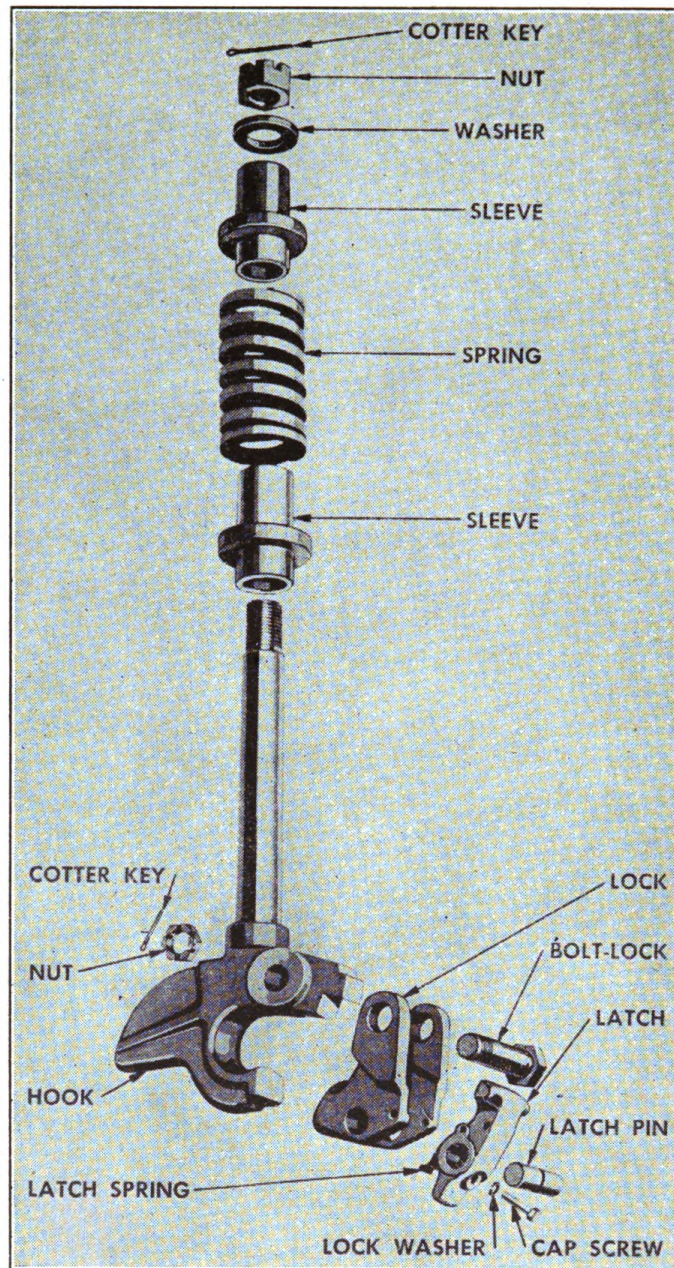

FIGURE 68. PINTLE HOOK—EXPLODED.
2. **DISASSEMBLY** (Fig. 68).—*a.* Place shaft end of hook (1) firmly in vise.
b. Remove cap screw (10) from latch and drive out latch pin (7).
c. Lift out the latch (3).
d. Remove cotter key (15) and nut (12) from the lock bolt (9) and pull bolt out.